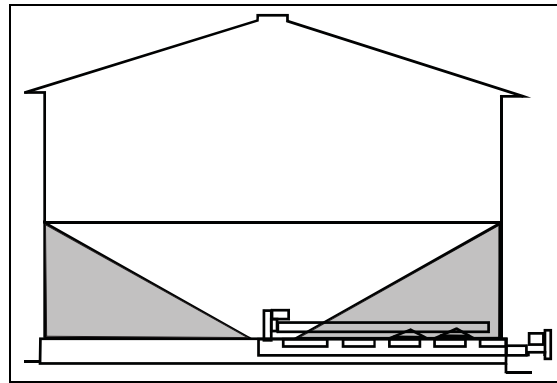
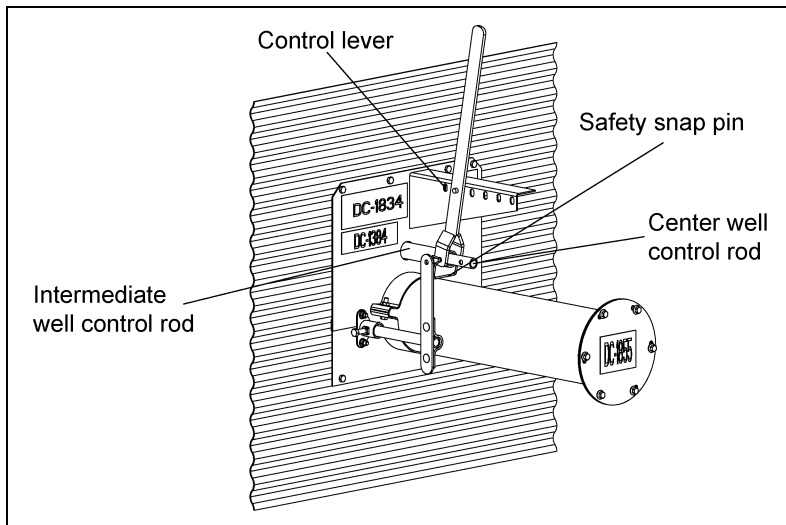

Figure 5D
Figure 5E
- When grain flow stops from the center well, close the center well gate. Insert the safety snap pin through the control lever and both the intermediate and center well control rods as Figure 5E. The remaining grain should look similar to Figure 5D.
5. When grain flow stops from the center well, close the center well gate. Insert the intermediate well bolt through the intermediate well control rod and the center well control rod. Remaining grain should look like Figure 5D on Page 42.